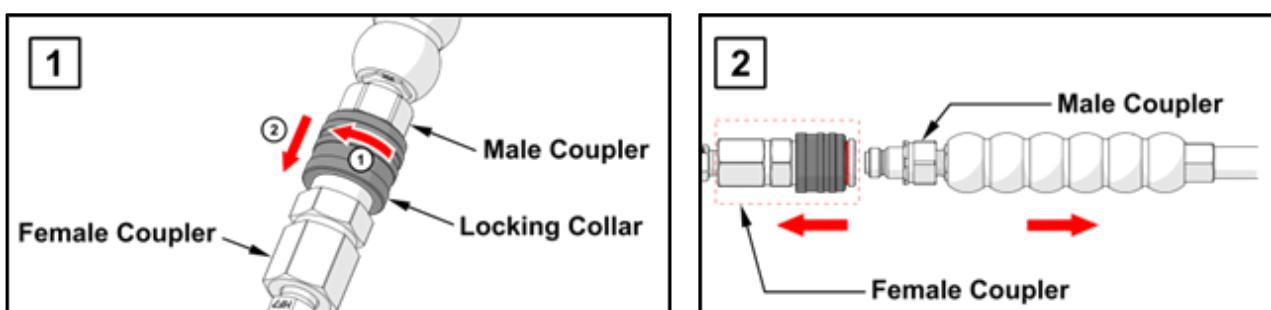

Figure 5.2: Hydraulic Disconnections
5.2.2 Disconnections (See *figure 5.2*)